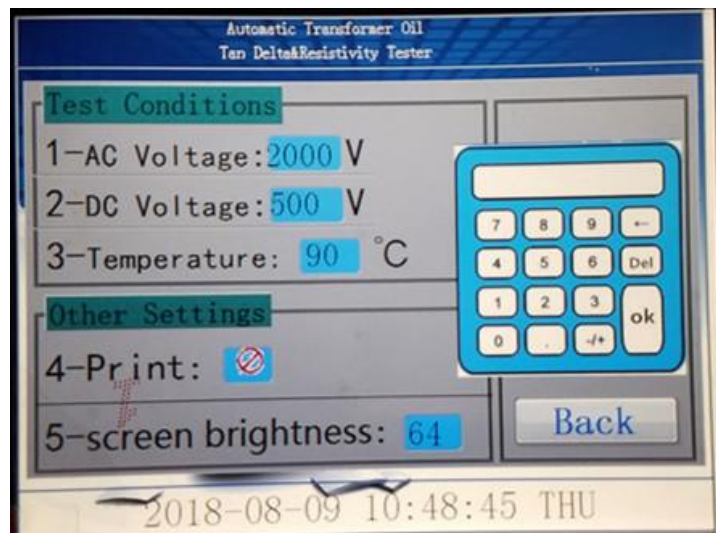

figure 5
5. In the figure 4 interface, you can set the test parameters separately. In the diagram, the default parameter of the device is the default parameter. If you need to change, you will automatically pop up a small keyboard if you click the parameters that need to be changed. Like Figure 5, you can directly input the required parameters in the keyboard and click the confirmation key on the keypad to select the only time to print. To click the cursor, you can switch between yes and No. After setting, click OK to return to the main interface of Figure 3.